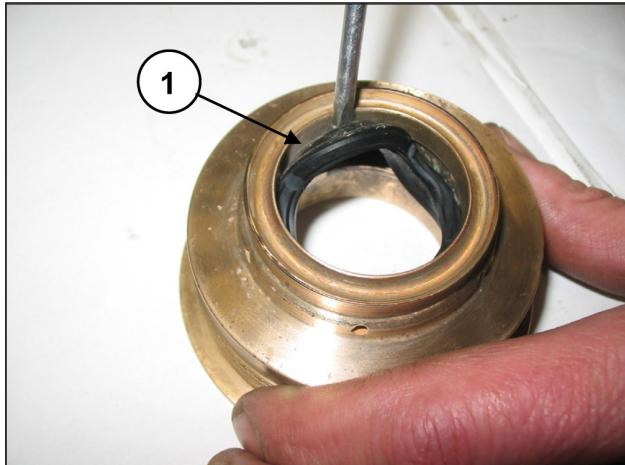

Fig. 173
To remove the low pressure seal, use a thickness gauge or another tool which will not damage the seal support housing (pos. ①, Fig. 173).